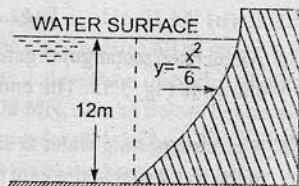

Fig. 3.61
22. Find the magnitude and direction of the resultant water pressure acting on a curved face of a dam which is shaped according to the relation $y = \frac{x^2}{6}$ as shown in Fig. 3.61. The height of water retained by the dam is 12 m. Take the width of dam as unity. [Ans. 970.74 kN, $\theta = 43^\circ 19'$]